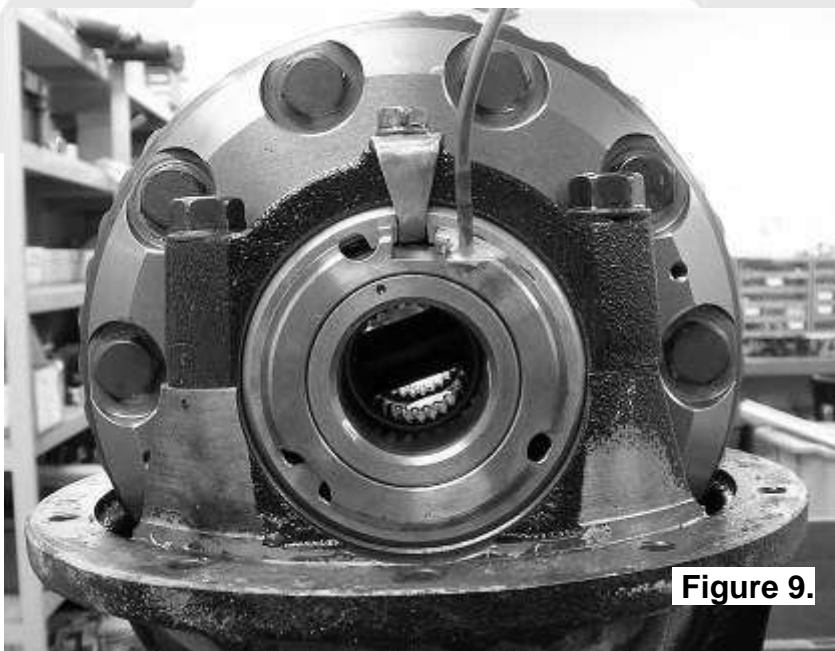

Figure 9.
- ☐ Rotate the seal housing until the square cutout lines up with the locking tab position at the center of the bearing cap, and then assemble the locking tab. (Fig.9.)